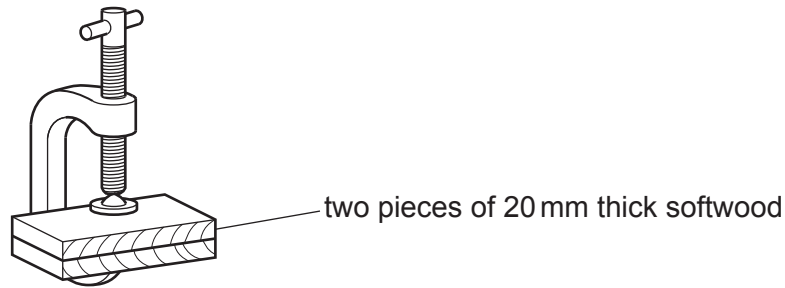

Fig. 1.1
- 1 Fig. 1.1 shows a workshop operation where there is a danger of damaging the material.